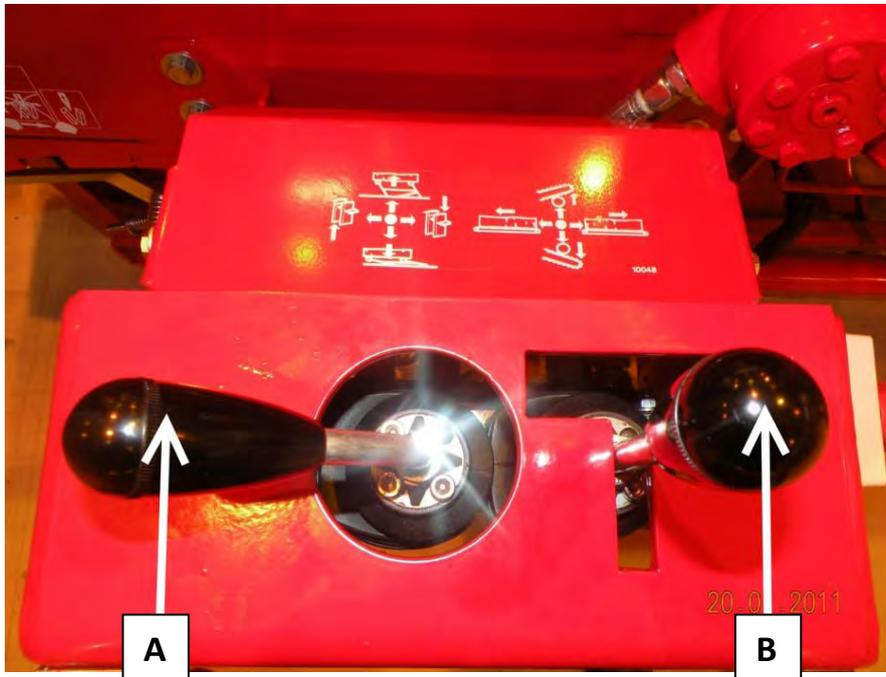

Figure 20. The control devices of an Easy model
In the Hakki Pilke 1X37 Easy model, the controls A, E and H have been replaced with the control levers A and B in Figure 20.
The input conveyor is activated when the cutting lever is moved up from its initial position. Note! In the Easy model, the conveyor can be activated with the control lever B (in Figure 20) by pushing the lever to the up/right position.
10. Test run the input conveyor's input motion with the operating lever A and the return motion with the reverse pedal E (in Figure 19). In the Easy model, use the control lever B shown in Figure 20.